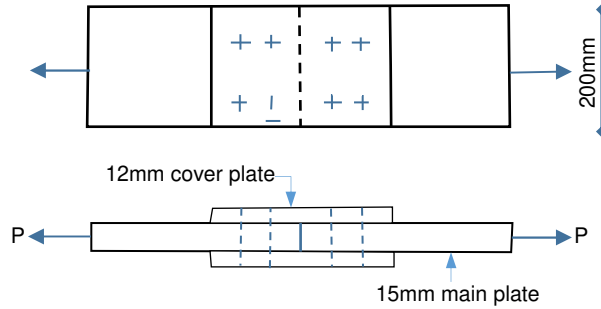

Figure 1
- b) A double riveted double cover butt joint is provided with 12mm thick cover plates, 15mm thick main plate and 20mm nominal diameter rivets as shown in figure 1. Determine: